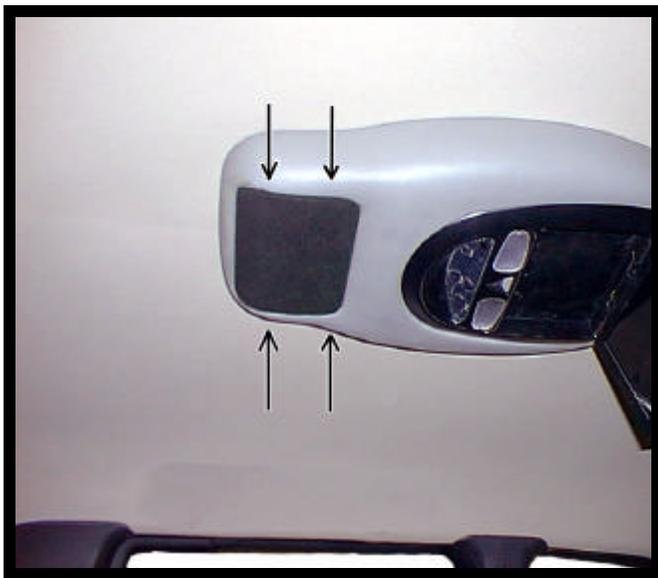

FIGURE 9
19. Install speaker grille (item 7 pg 2). Align clips in grille with holes in console and press firmly. See Figure 9.
20. If speaker upgrade kit was not installed, install cover plate (item 9 pg 2) at front of console and secure using (2) # 6 X 1/2" screws (item 5 pg 2).
21. Install cover plate decal (item 10 pg 2).